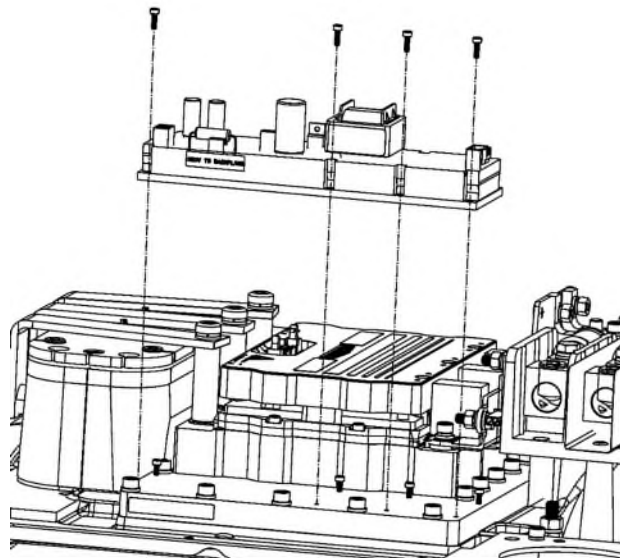

Figure 14 – Potted DC-DC Converter Removal
- b. Loosen the fasteners that are located next to the Inverter. Refer to Figure 14 – *Potted DC-DC Converter Removal* for this and the next two (2) steps.